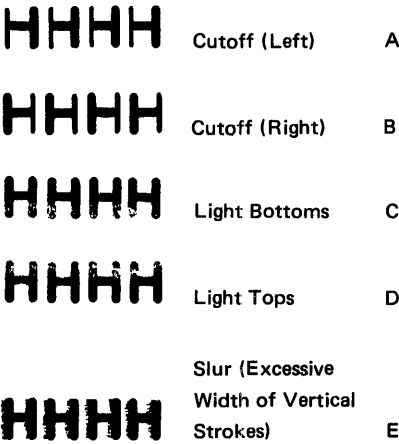

Figure 28. Print Conditions – Operator Adjustable
Figure 28 shows print-density conditions (enlarged) that can be corrected by the 1403 operator. The method of obtaining print-density variations differs between the 1403 chain and train printers.
4. With the print-density control set at D, continue printing and look for conditions shown in Figure 28.